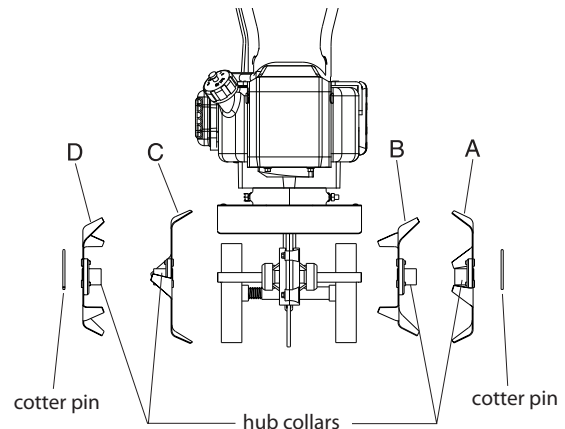

Figure 12 (Front View)
2. Slide the outside tine "A" and tine "D" onto each end of the shaft next. The tines should be installed in the correct order so that they are positioned left to right A, B, C, D, as viewed from the user's position on the mini-cultivator. Make sure that the hub collars on both the right and left pairs of tines face each other so that there is adequate spacing between the tine blades. **SEE FIGURE 12.**